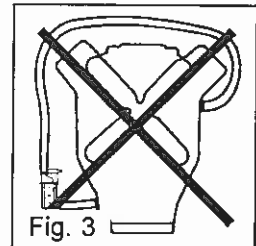
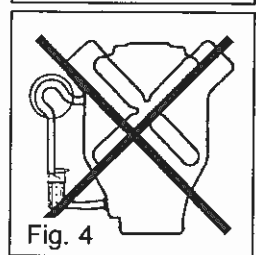

Fig. 3
Fig. 4
- Avoid restrictions in the flow of the coolant, such as routing the coolant hose over the engine (Figure 3), sharp bends or loops (Figure 4), or other similar configurations. Restrictions can cause the heater to short cycle & not warm the engine.